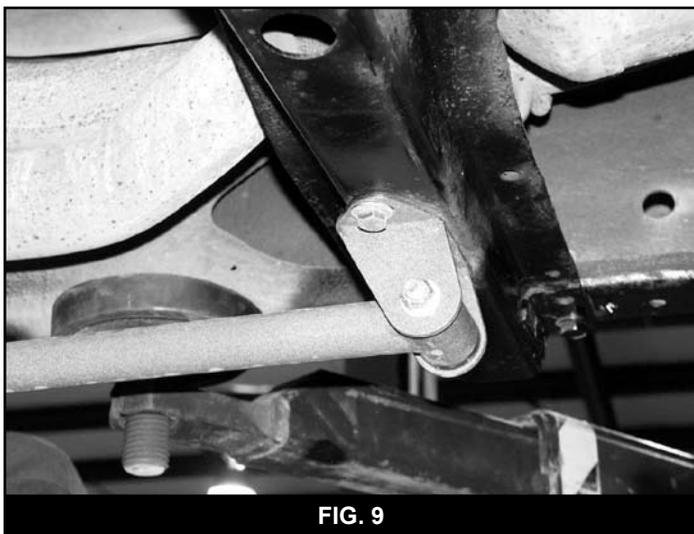

FIG. 9
44. After the position is determined, install the rear mounting bracket (01189) to the compression strut and swing it up to the transmission crossmember again. Ensure that the two mounting holes in the bracket are relatively centered on the crossmember and using the bracket as a template, mark the holes on the crossmember for drilling. **Note:** If the bracket is not lining up on the crossmember correctly, turn the bracket around on the strut (Fig 9).